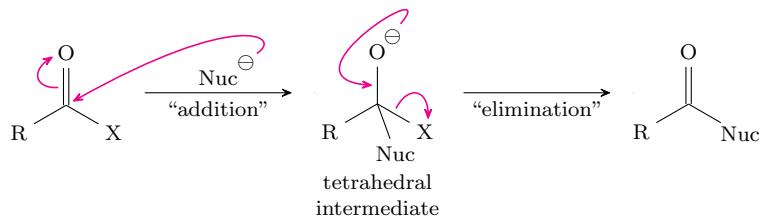

Figure 4.22: Mechanism of a (neutral) acyl transfer reaction.
- Thus, the general addition-elimination mechanism (Figure 4.22) will proceed very slowly here.
- This is much more similar to the general mechanism (Figure 4.22): The starting material undergoes addition by hydroxide, followed by subsequent elimination.[7]